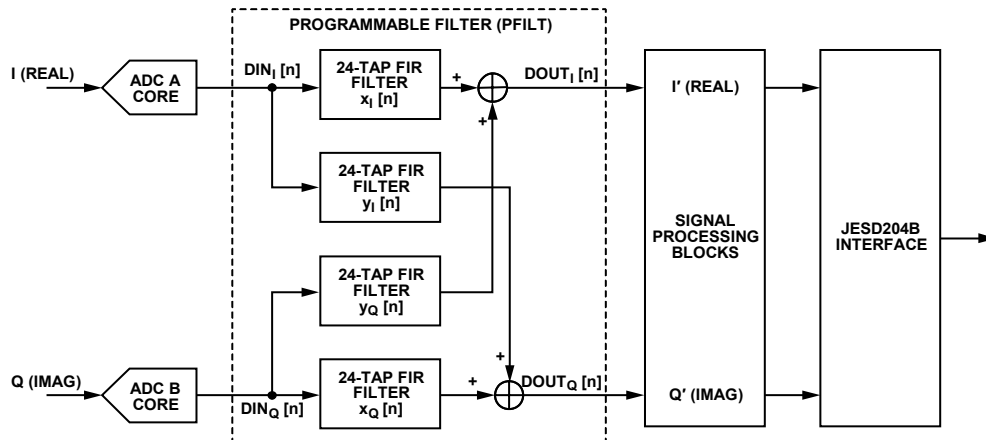

Figure 108. 24-Tap Full Complex Filter Configuration.
- Full complex filter using four real 24-tap filters for the I/Q channels (see Figure 108)